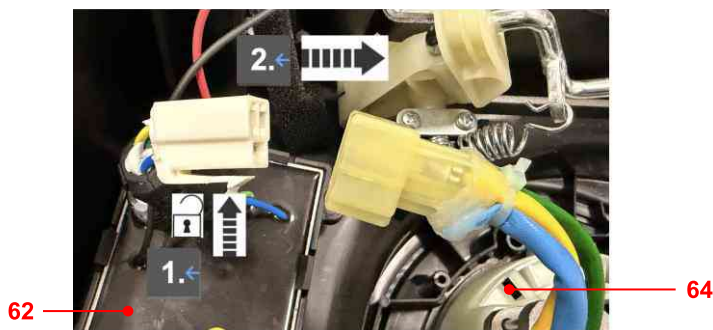

Fig. 7
5. Disconnect the wiring plug to disconnect the 36V brushed motor (64) from the 40V controller (62) (Fig. 7).